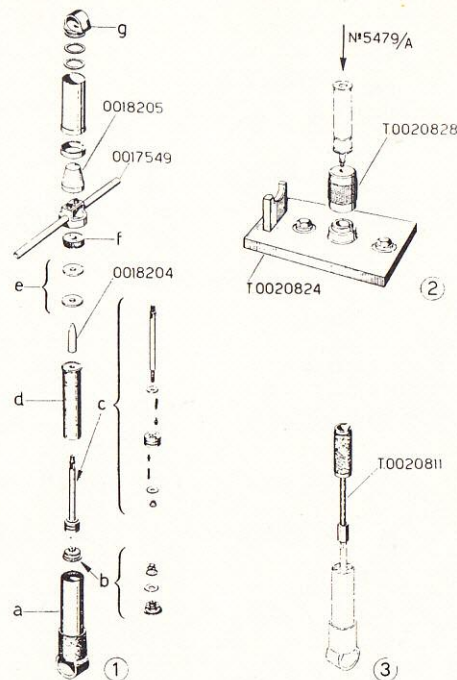

Fig. 107a.
1. Clamp the damper in a vice (lined with aluminium), tightening on the flat facing of the bottom part "a"; see Fig. 107a, No. 1.
3. Push the piston-stem unit into the cylinder, forcing out all excess oil. With hand press 5479/A and tools T. 0020824 and T. 0020828 assemble the discharge valve in the cylinder. Peen the tube on two opposite points (two of the four holes), in the base of the cylinder so that the valve will not move (Fig. 107a, No. 2).
guide bush with a screwdriver), and use tool T. 0020811 (Fig. 107a, No. 3) to reciprocate the damper stem up and down until all air has been expelled.
6. With pilot sleeve 0018204 assemble the packings. Assemble the threaded ring with wrench 0017549; with pilot sleeve 0018205 fit felt ring and outer tube. Screw down and tighten the support "g" holding the stem with a 6 mm open ended spanner (see Fig. 107a, No. 1).